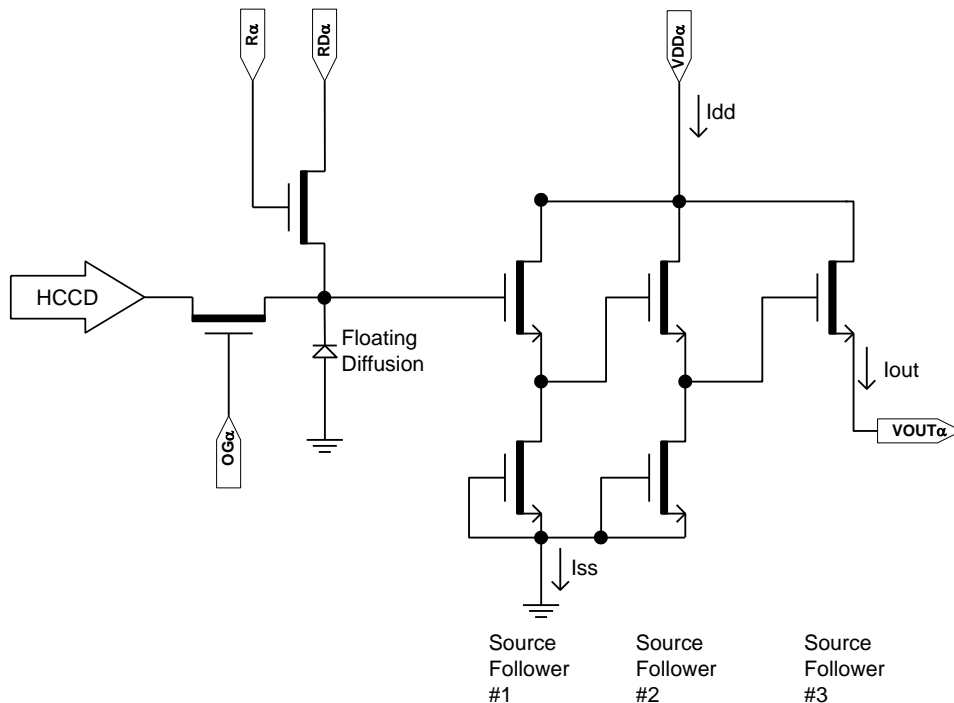

Figure 15: Output Amplifier
2. The maximum DC current is for one output. Idd = Iout + Iss. See Figure 15.